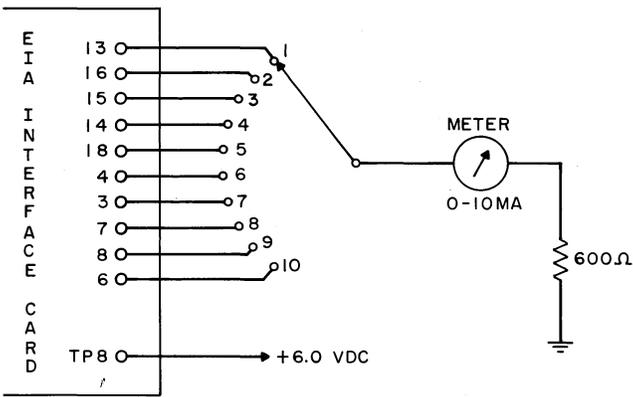

Fig. 32 - (EIA Interface Test)
- (a) With the card connected as in the suggested test circuit shown in Fig. 32, connect +6.0 ± 0.3 volts dc to test point 8 of the card. Measure the current drawn at each output terminal by rotating the switch through positions 1 to 10. At each position of the switch the current drawn should be less than 1.5 ma dc.